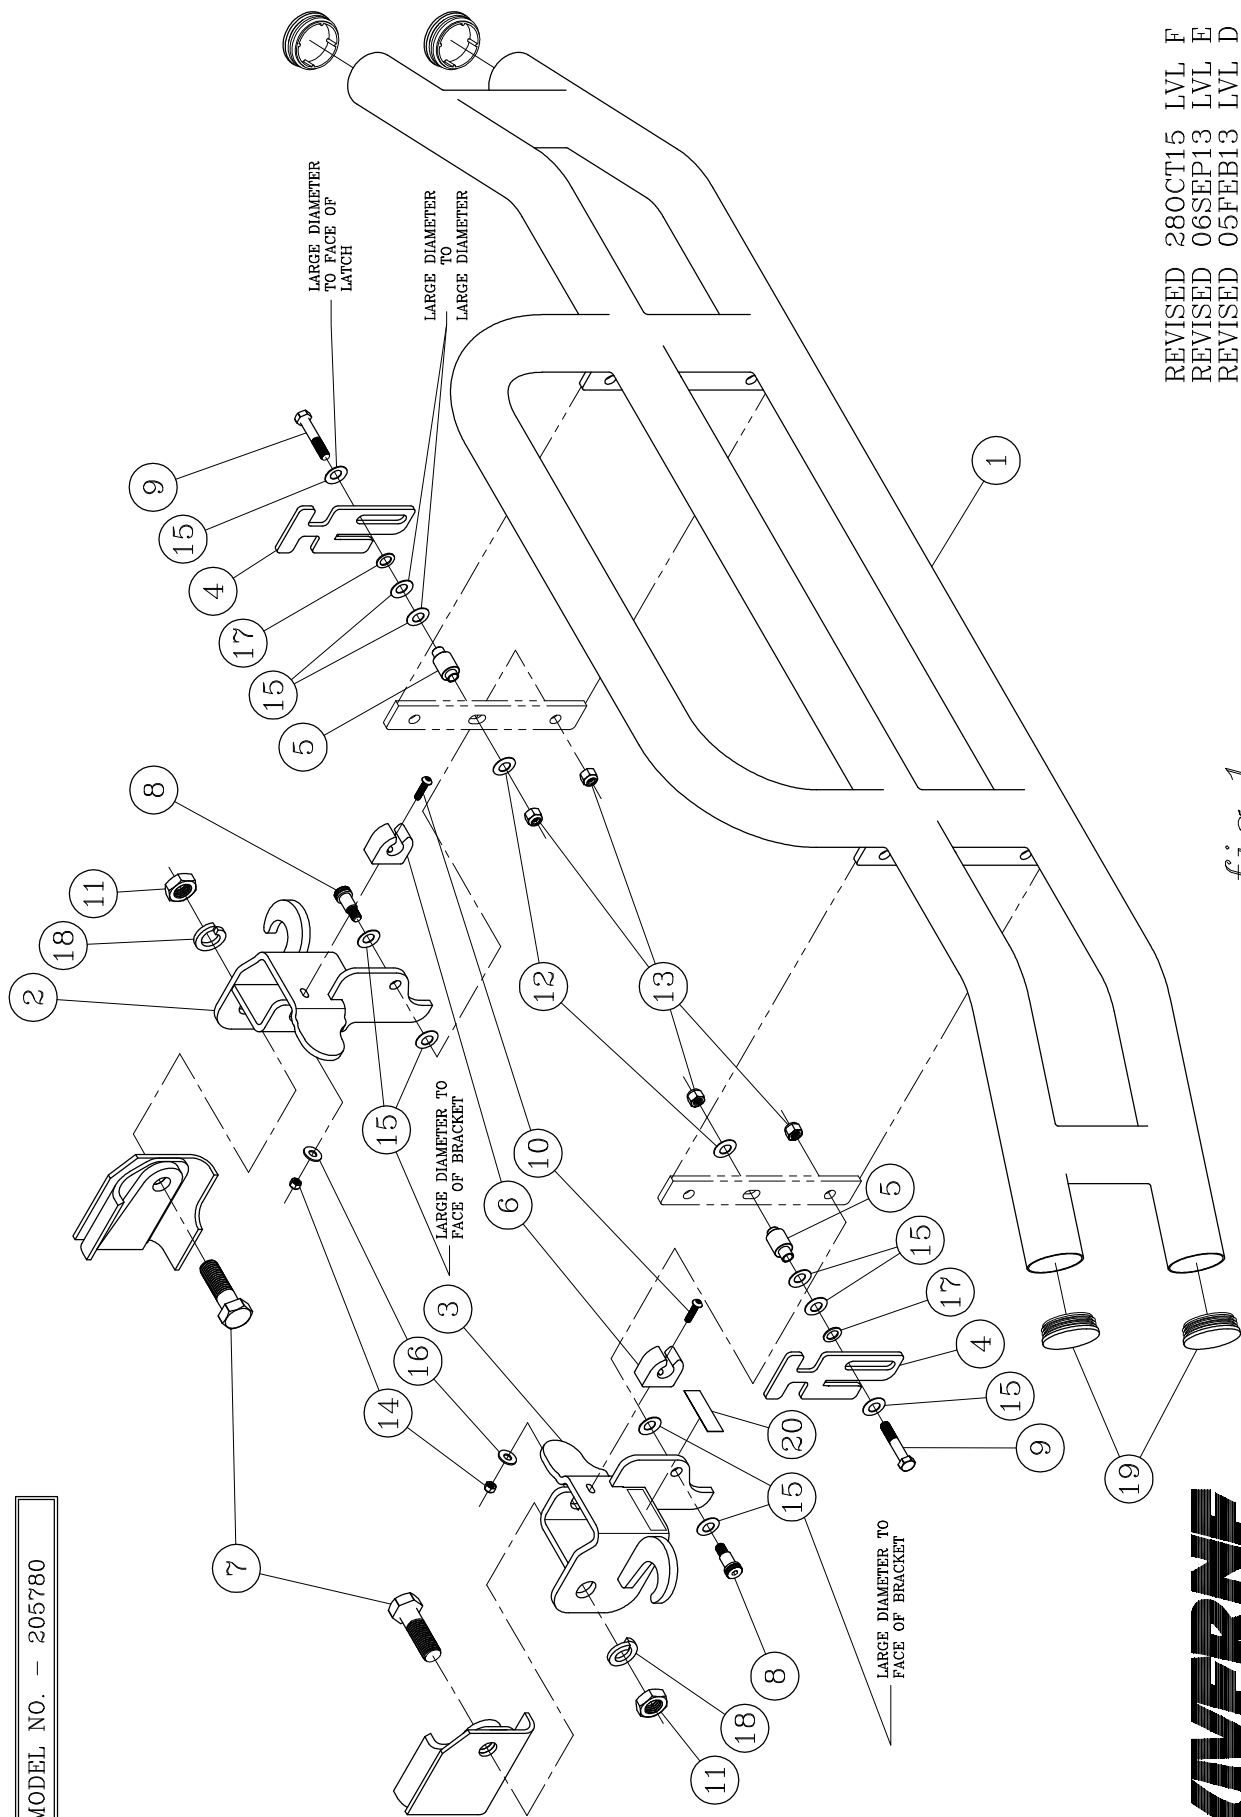

fig. 1
3. USING THE 5/16"-18 X 1-1/4" BUTTON HEAD SCREWS (ITEM #10), 5/16" FLAT WASHER (ITEM #16) AND 5/16"-18 NYLOCK NUTS (ITEM #14), ATTACH THE RUBBER STOPS (ITEM #6) TO THE MOUNTING BRACKETS AS SHOWN IN *fig. 1*.
6. HOLD THE GUARD UP TO THE FRAME AND INSTALL THE 1"-8 X 3-1/4" BOLTS (ITEM #7), THROUGH THE OUTSIDE OF THE BRACKET AND THROUGH THE FRAME. INTALL THE 1" LOCK WASHERS (ITEM #18) AND 1" HEX NUTS (ITEM #11), AS SHOWN IN *fig. 1*. TIGHTEN THE BOLT TO 587 FOOT POUNDS.